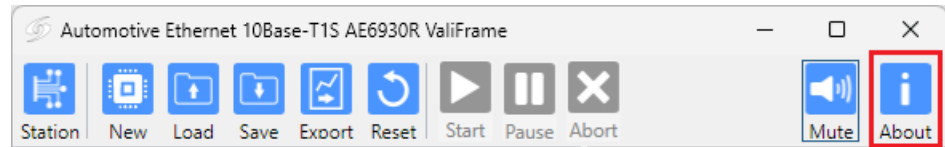

Figure 1-2 About button in the toolbar
- 1 Click the **About** button in the main window (Figure 1-2).